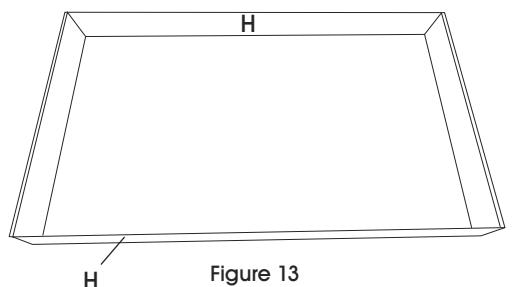

Figure 13
5. Lid assembled. (See Figure 13)